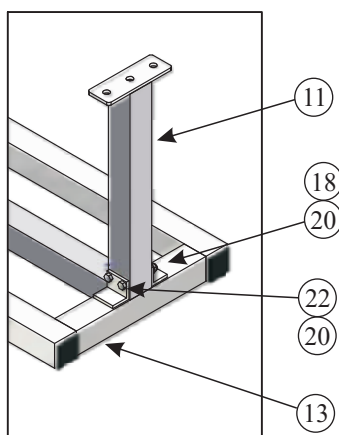

Figure 13.
8.) Attach the end seat supports (11) to the horizontal seat support (13) by fixing through the brackets with BOL472 (22) and fixing with a skiffy washer and nylock nut (Figure 13).
9.) To attach the seats (4) to the horizontal support line up the holes in the seat with the holes in the support and use BOL472 (22) and BOL722 (20) to fix through. Fix tightly using BOL402 (18).